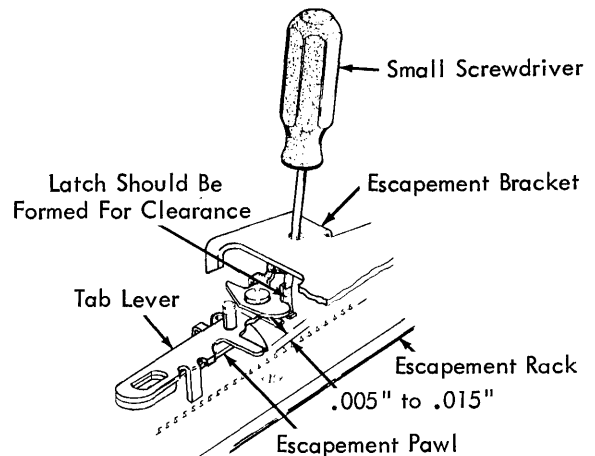

FIGURE 233. Pawl Clearance Adjustment
7. Pawl Clearance (Fig. 233) - The upright lug of the tab latch should be formed forward or back so that the tip of the escapement pawl clears the escapement rack teeth by .005" - .015" when the tab lever is latched to the rear.